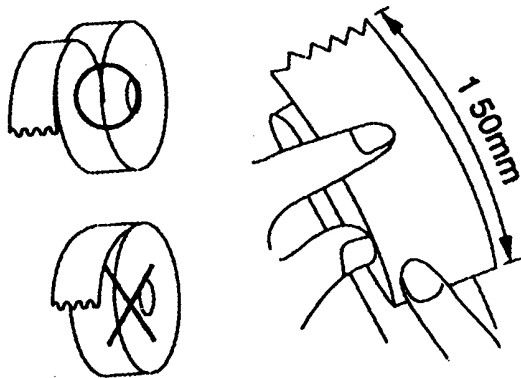

Figure 3-9. Folding Paper for Insertion
1. Using a new roll of paper, unroll the paper about 150 mm and fold the paper as shown in Figure 3-9.